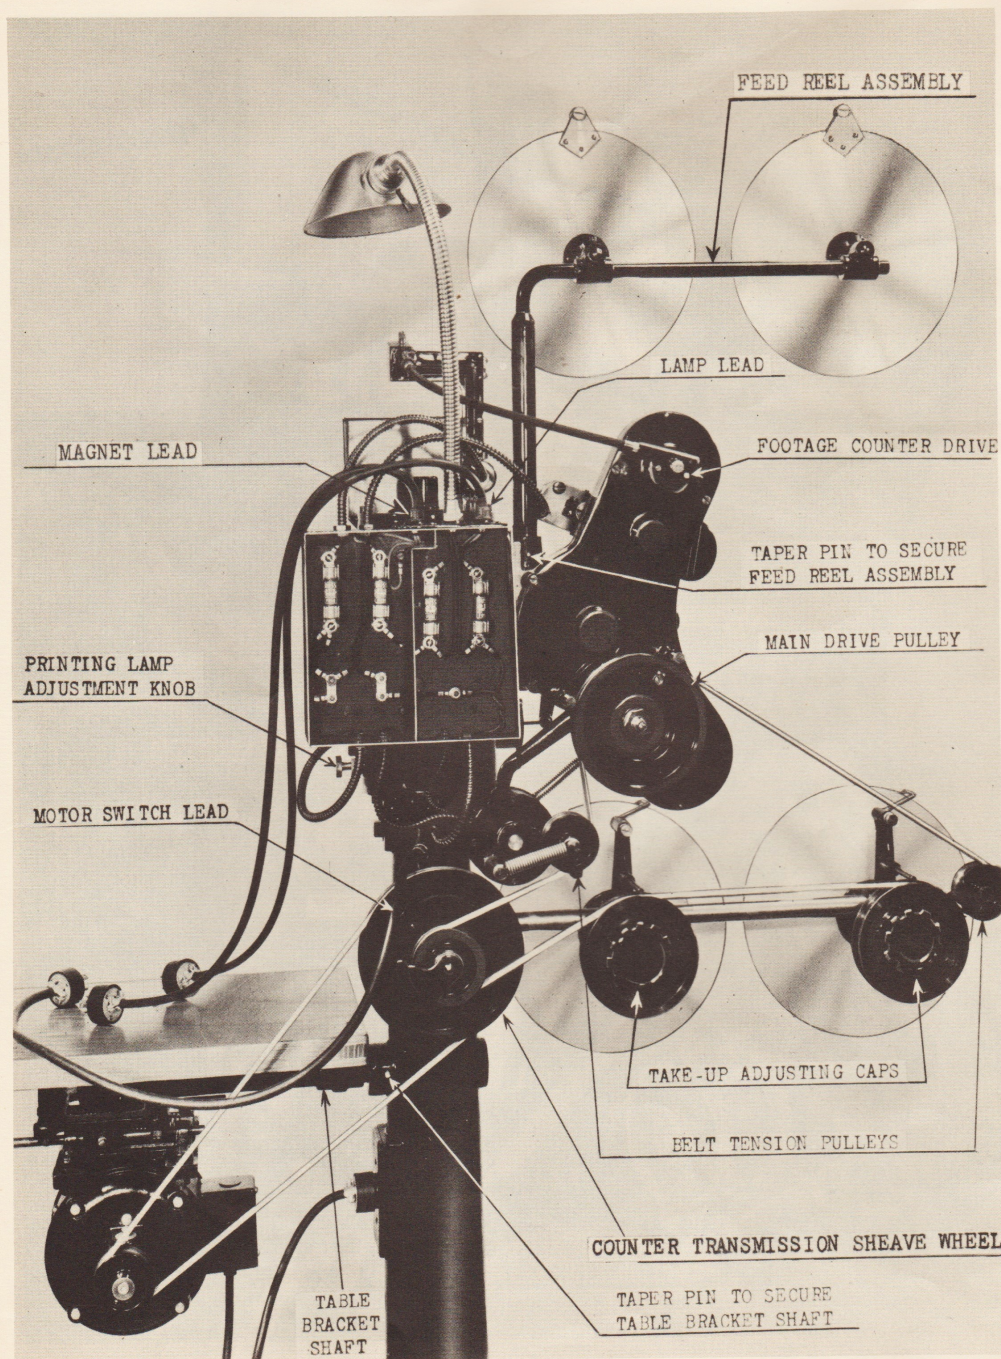

FIGURE 4 - REAR VIEW OF PRINTER.
2. (See figure 4.) Install the feed reel assembly, fastening it in position by means of the taper pin as shown.
3. (See figure 4.) Insert the table bracket shaft into the receptacle in the printer pedestal, locate and fasten it in position by means of the taper pin as shown.
6. (See figure 4.) Place the drive belts on their respective pulleys as shown. Note that the motor is so mounted that the automatic belt take-up mechanism applies the necessary amount of tension to the drive belt.
- (b) (See figure 4.) The printing lamp mounting is located in the base of the lamp chamber. It is provided with a sliding base which, by means of an adjusting screw and lock nut projecting outside the lamp chamber, can move the lamp to or from the aperture opening. The purpose of this adjustment is to compensate for any variations in lamp efficiency and to assist in overcoming any inequalities of lamp brilliancy where two or more printers are to be maintained at a uniform light standard.